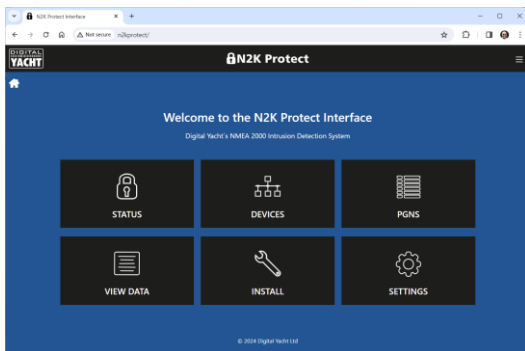

Figure 1
- A wireless device, connected to N2K Protect, can access its web interface in a browser at <http://192.168.1.1> or <http://n2kprotect.local> which should bring up the N2K Protect home page as shown in Figure 1.